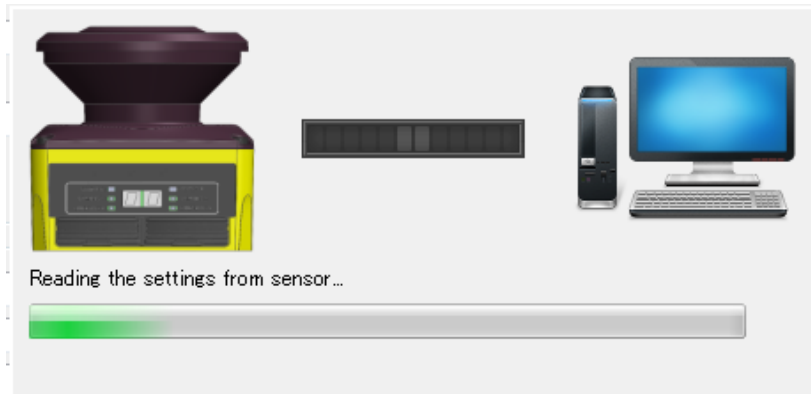

Figure7-54 Reading the configuration of UAM
- b) Select Load settings on the sub panel window. Progress panel will appear (Figure 7-54) showing the state. If this button is clicked without connecting the UAM a dialog box will appear to read settings from the SD card (refer to section 7.9.1).